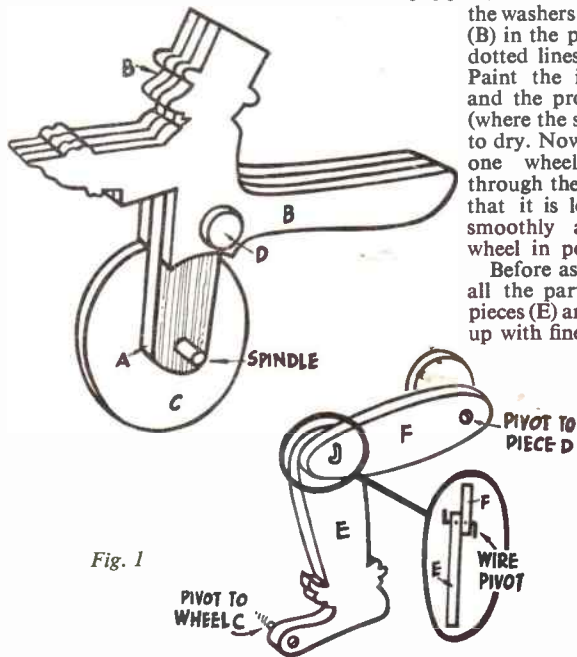

Fig. 1
Commence assembly as shown in Fig. 1 by gluing the pieces (B) one on each side of piece (A) and
When all is dry the legs are assembled by pivoting one piece (E) to one piece (F) as indicated in Fig. 1. One pair goes on each side of the model and piece (F) will be on the outside in each case. Now pivot (F) to (D) and (E) to the wheel by means of  $\frac{3}{16}$  in. round-head screws. The feet should be positioned on the wheels so that when one knee is up, the other is down. It should now appear as in the picture of the finished toy and is ready for action. (M.h.)